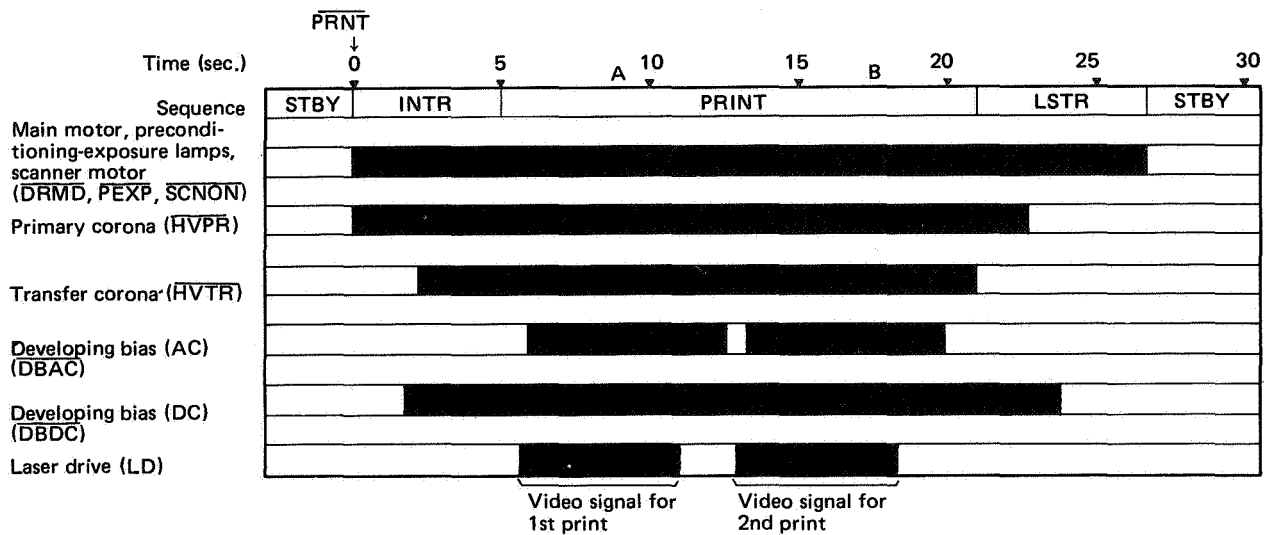

Figure 2-10 Using cassette feed for two consecutive A4 prints
In the example shown in Figure 2-10, the DC controller switches off the transfer corona, primary corona, and developing bias (DC) after image transfer for the second print. After the second print has been delivered, the DC controller turns off the main motor, scanner motor, and preconditioning exposure lamps. The leftover charges on the drum are removed. (This lengthens drum life and prevents uneven images.)
While each print is being made, the DC controller checks whether the video controller has transmitted a TRUE  $\overline{PRNT}$  command (at A and B in Figure 2-10), indicating that another print is to be made. If a TRUE  $\overline{PRNT}$  command is not received, the DC controller waits for a TRUE  $\overline{PRNT}$  for a certain period (about 5 seconds). If a TRUE  $\overline{PRNT}$  command is not received within that period, LSTR begins.